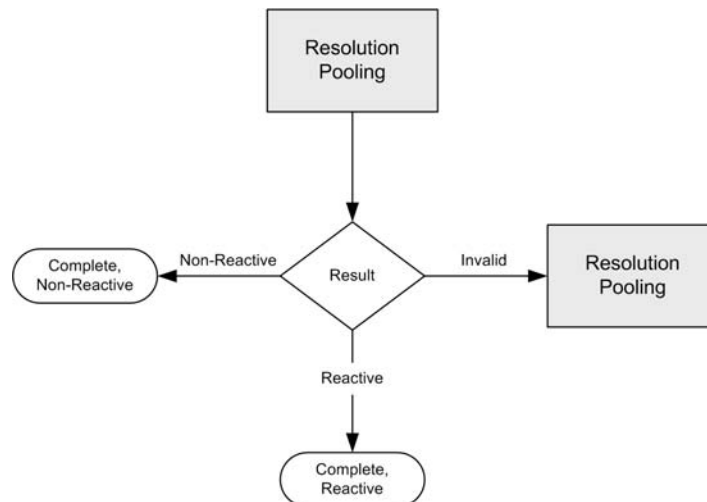

Figure 1.4
- Resolution Pooling is scheduled (Figure 1.4) if test results are invalid.
- All donor samples in the pool are scheduled for Resolution Pooling (Figure 1.4) if the Primary Pool of 6 is reactive.
- All donor samples in the pool are scheduled for Resolution Pooling (Figure 1.4) if the Repeat Pool of 6 is reactive.
Resolution Pools are tested for the presence of the screening analyte(s) (Figure 1.4).